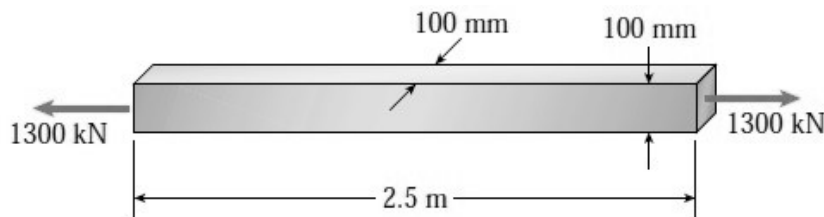

Figure 4
Q.4(b) A steel bar of length 2.5 m with a square cross section of 100 mm on each side is subjected to an axial tensile force of 1300 kN as shown in Figure 4. Assume modulus of elasticity of the steel, $E = 200$ GPa and Poisson's ratio, $\nu = 0.3$. Determine the increase in volume of the bar.